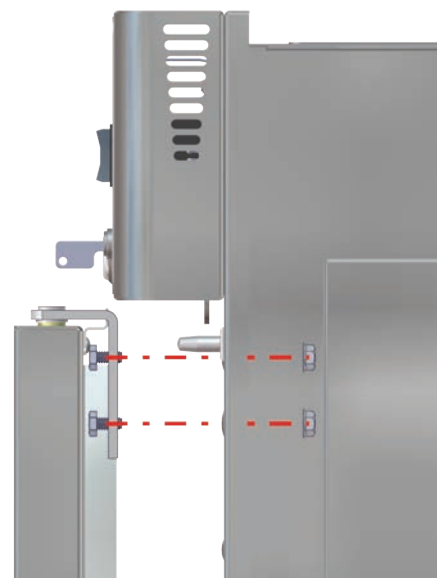

Figure 53: Remove Steel Door
1. Loosen the nuts on the bolts that hold the top door hinge onto the unit. Hold the door as you remove the nuts so the door does not fall on you. Once the nuts are removed, the door can be leaned away from the unit and lifted off the bottom hinge (Figure 53).